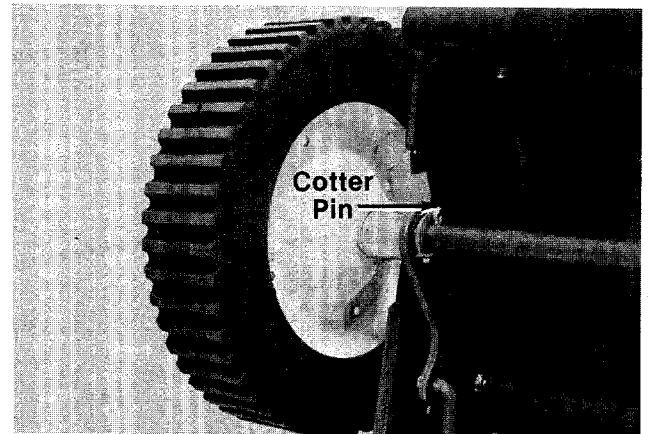
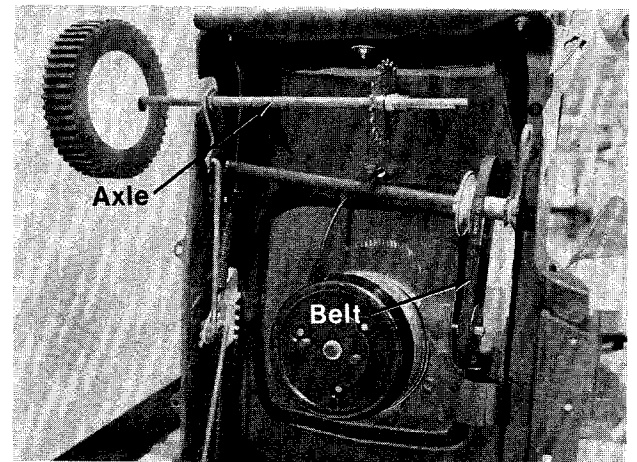

FIGURE 24.
FIGURE 25.
- Remove the cotter pin next to the bearing by the left wheel. See figure 24. Slide the axle to the left. The belt can be removed. See figure 25.